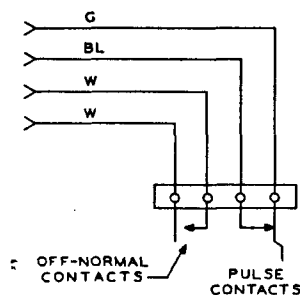

Fig. 19
• Dial contact schematics (Fig. 19, 20, and 21).
- Dial contact schematics (Fig. 19, 20, and 21).